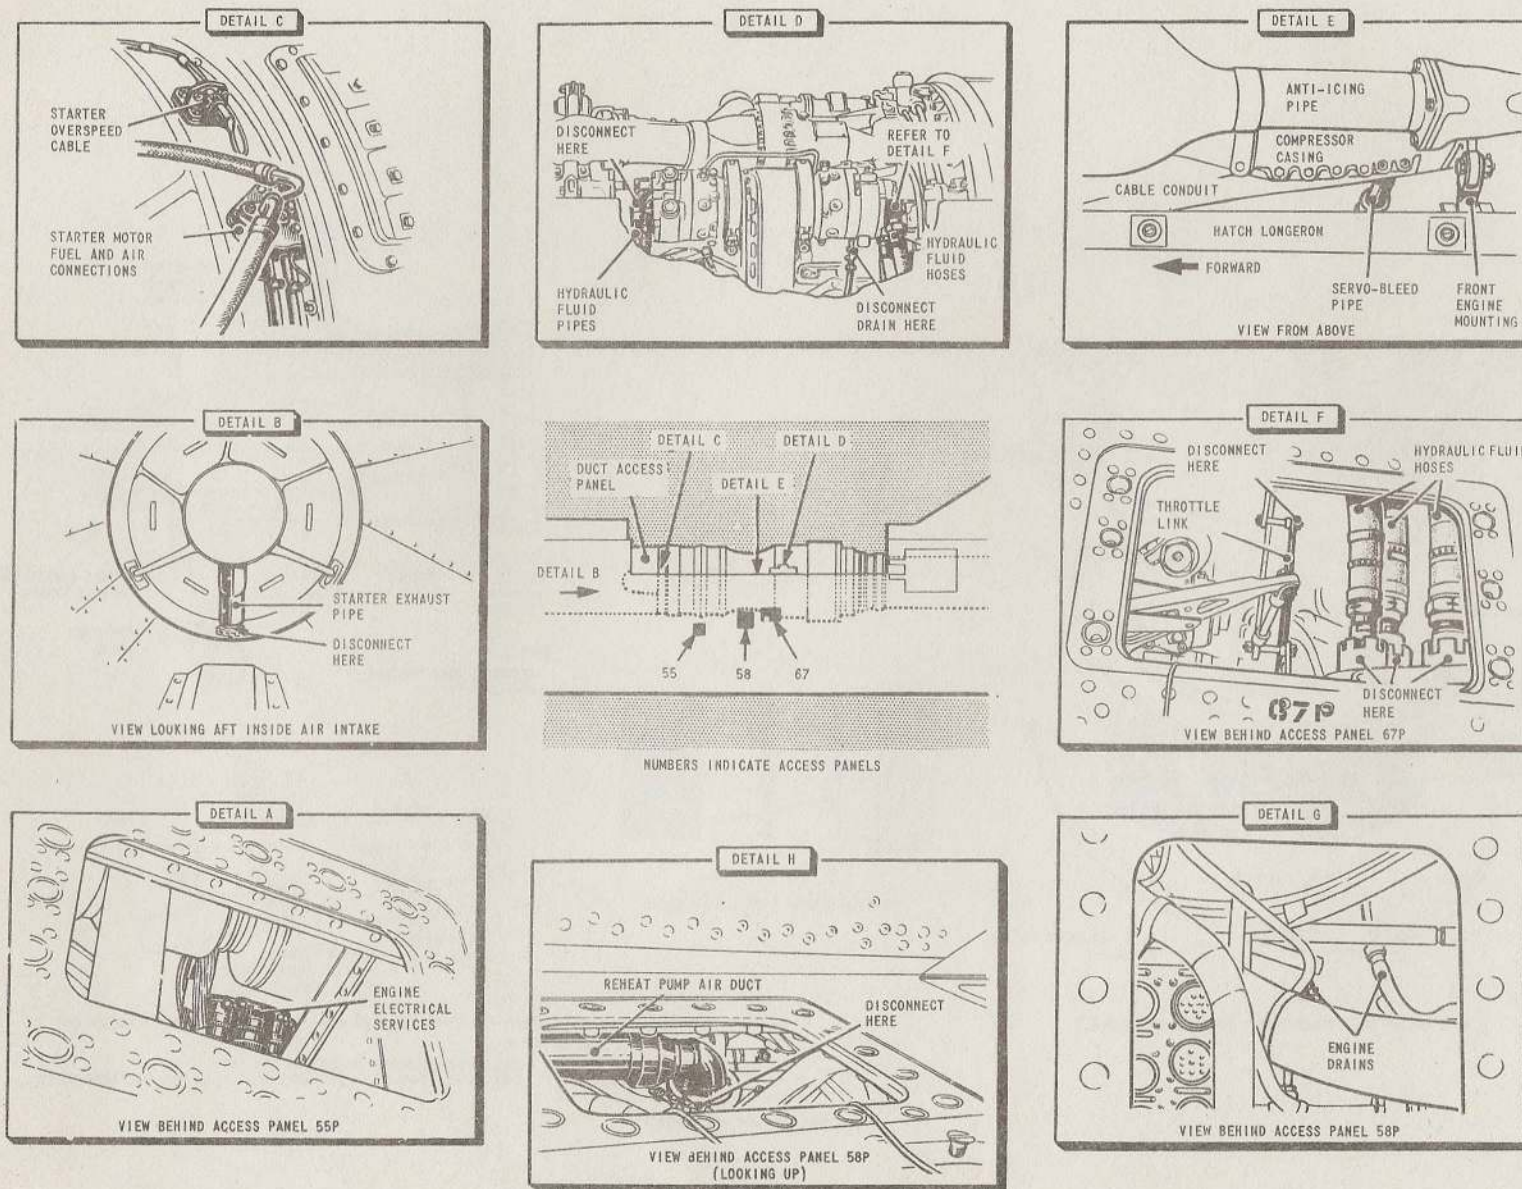

FIG.15. NO.2 E.C.U. - REMOVAL AND ASSEMBLY (1)
Removal (fig.15 and 16)
(12) Remove access panels 74P and S, unscrew the clamp bolts and remove the two keep plates.
(13) Disconnect the forward jet-pipe drain.
(14) Fit the jet pipe divorcing tools, separate the exhaust unit and intermediate jet pipe, slide the jet pipe to the rear, and lower the bottom half of the shield gently to the floor of the engine bay. ►
(15) Disconnect the starter fuel and air lines at the airframe connections.
(16) Disconnect the starter overspeed switch lead.
(17) Disconnect the servo bleed pipe at the fuselage union.
(18) Disconnect the air supply pipe to the reheat fuel pump at the air shut-off cock.
(19) Remove access panel 58P and disconnect the oil cooler drain and the fuel control unit drain.
(20) Disconnect the forward hydraulic pump hoses at the pump (*fig.15, detail F*) and the aft pump hoses at the fuselage couplings.
(21) Disconnect the aft pump drain at the intermediate union between the pump and the fuselage.
(22) Disconnect the final control link at the engine fuel flow control unit valve lever.
(23) Ensure that the starboard high-energy igniter lead is disconnected.
(24) Remove the engine wheelcase breather pipe by dismantling the quick-release clamp and withdrawing the pipe outward from the fuselage adapter.
(25) Disconnect the auxiliary air systems flexible pipe from the engine adapter.
(26) Disconnect the fuelraulic supply pipe from the airframe bracket.
(27) Remove the air pipe between the engine non-return valve and the main air duct of the starboard floor.
(28) Remove the flexible fuel pipe between the hot-shot relay engine adapter and the fuselage attachment.
(29) Disconnect the engine fuel supply hose at the engine fuel filter.
(30) Remove the knurled leads from the starter igniter boxes in the spine and disconnect the leads from the engine.
(34) Disconnect the forward engine mountings (*fig.15, detail E*).
(35) Disconnect the rear engine mountings (*para.35, operation (40)*).
(36) Lift the engine slowly, adjusting the sling lifting point to tilt the rear end of the engine upwards. Avoid fouling of the air-intake duct by the starter motor. Continue tilting until the exhaust unit extension is clear of the engine bay.
(37) As soon as possible, disconnect the three electrical services plugs.
(38) Move the engine aft until the starter motor clears the duct then lift clear of the aircraft.
(39) Adjust the sling until the engine is in a level position then lower it on to the transportation stand.
Assembly (fig. 15 and 16)